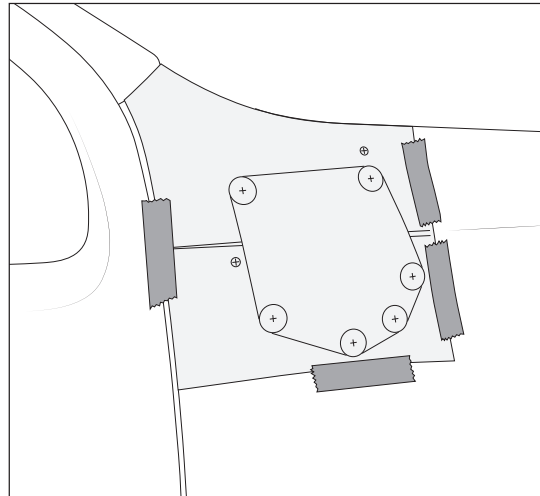

Figure 1
4. Align the template on the truck and tape into place so that the template sits flat on the vehicle surface with no wrinkles (fig. 1).